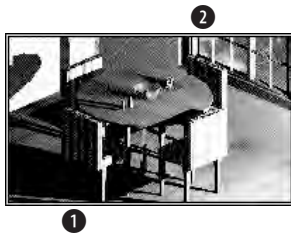

Figure 27-10: Clipping the raster image
Specify first corner point: *If OSNAP is on, turn it off. Pick ❶ in Figure 27-10.*